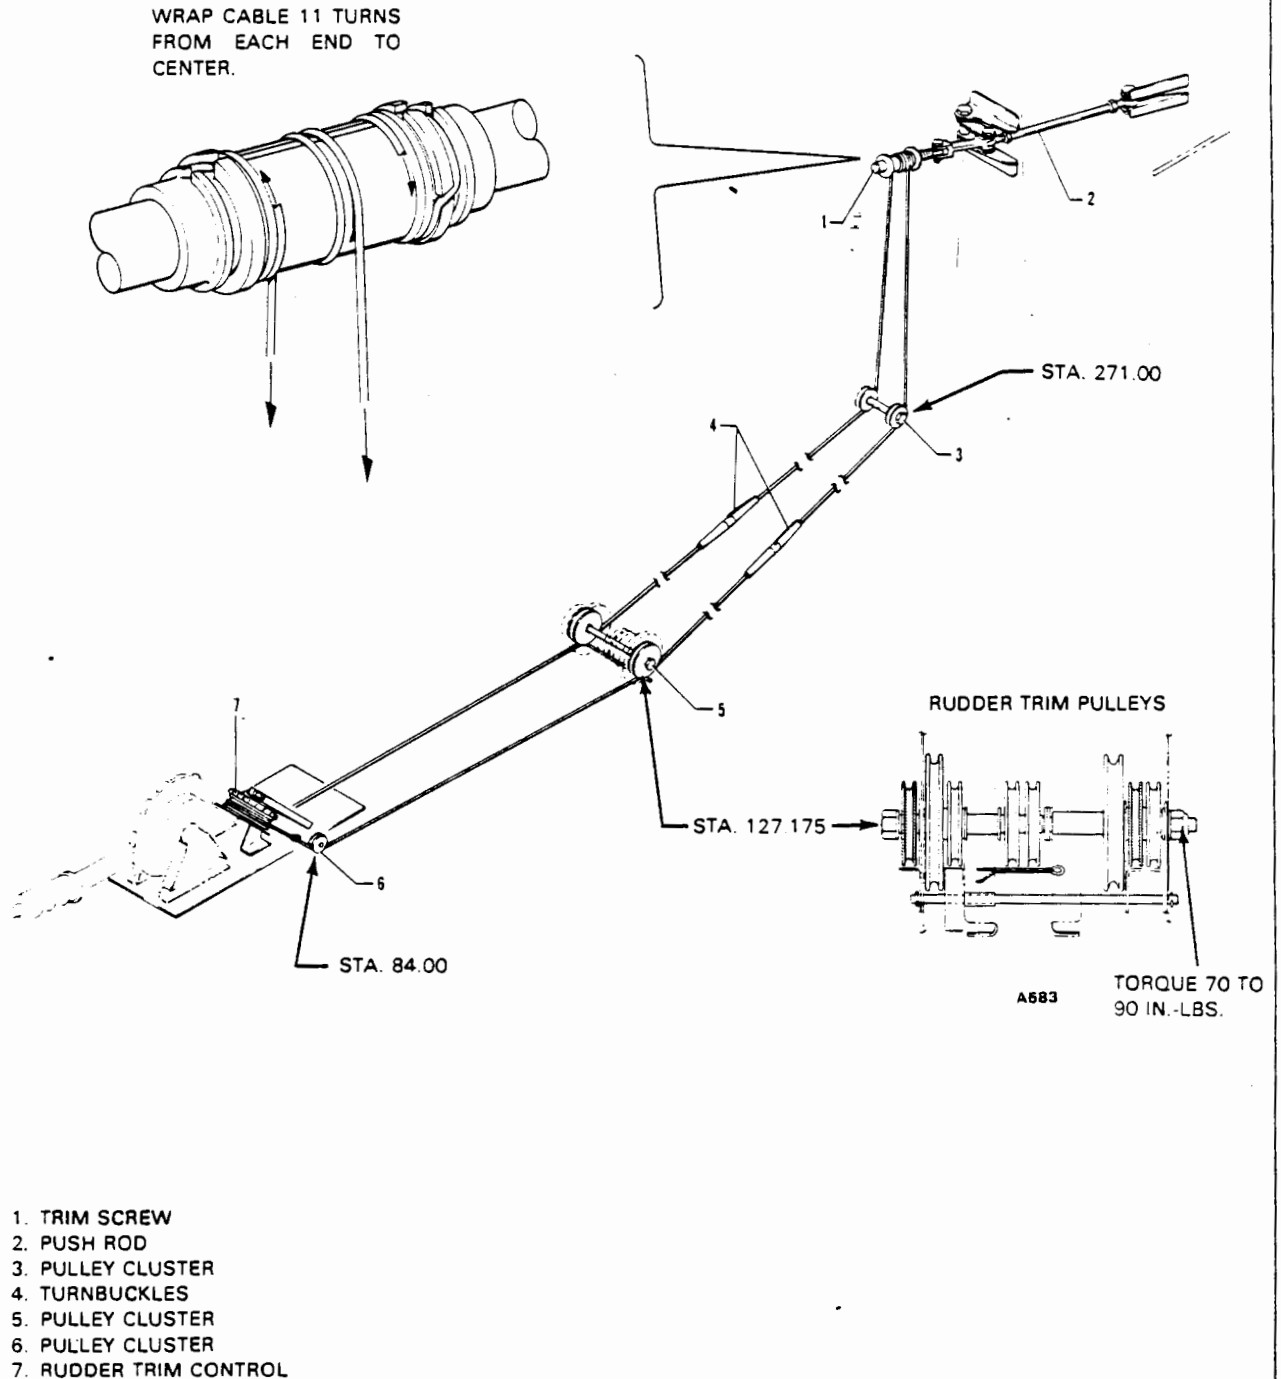

Figure 27-10. Rudder Trim Controls
REMOVAL OF RUDDER TRIM CONTROLS (FORWARD). (Refer to Figure 27-10.)
2. If the aft trim cable is not being removed, block the cables aft of the turnbuckles to prevent the cables from unwrapping at the trim barrel in the fin. (Refer to Figure 27-10.)
INSTALLATION OF RUDDER TRIM CONTROLS (FORWARD). (Refer to Figure 27-10.)
C. Position the cables over the proper pulleys (as shown in Sketches B and C of Figure 27-10.)
E. Remove the blocks securing the aft cables and check that the cables are seated on the pulleys. Install the guard pins at the pulley clusters. (Refer to Sketches B and C of Figure 27-10.)
F. Set trim cable tension in accordance with specifications given in Figure 27-10 and check rigging and adjustment. Safety both turnbuckles.
REMOVAL OF RUDDER TRIM CONTROLS (AFT). (Refer to Figure 27-10.)
1. If the forward trim mechanism is not being removed at this time, block the cables forward of the turnbuckles to prevent the cables from unwrapping at the forward trim drum. (Refer to Figure 27-10.)
INSTALLATION OF RUDDER TRIM CONTROLS (AFT). (Refer to Figure 27-10.)
4. Adjust the screw assembly to obtain the neutral position. (Refer to Sketch D of Figure 27-10.)
RIGGING AND ADJUSTMENT OF RUDDER TRIM CONTROLS. (Refer to Figure 27-10.)
A. Ascertain that the cable is wrapped 11 turns around the barrel from each end with space at the center as shown in Figure 27-10.
D. The cable tension is set in accordance with Figure 27-10.